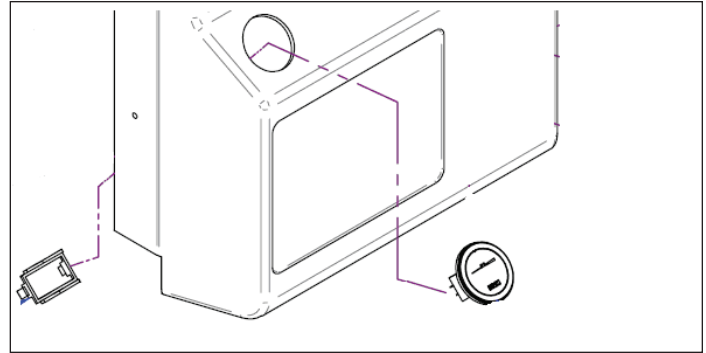

Figure 8-9. BDI Mounting
3. Position new BDI to face of console and secure with retainer on back side of console (Figure 8-9).